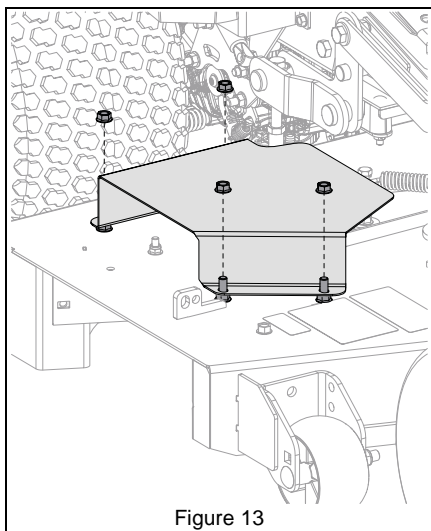

Figure 13
2. Remove and retain hardware securing belt cover to mower deck. Remove belt cover and retain all parts for operation without bagger. See Figure 13.